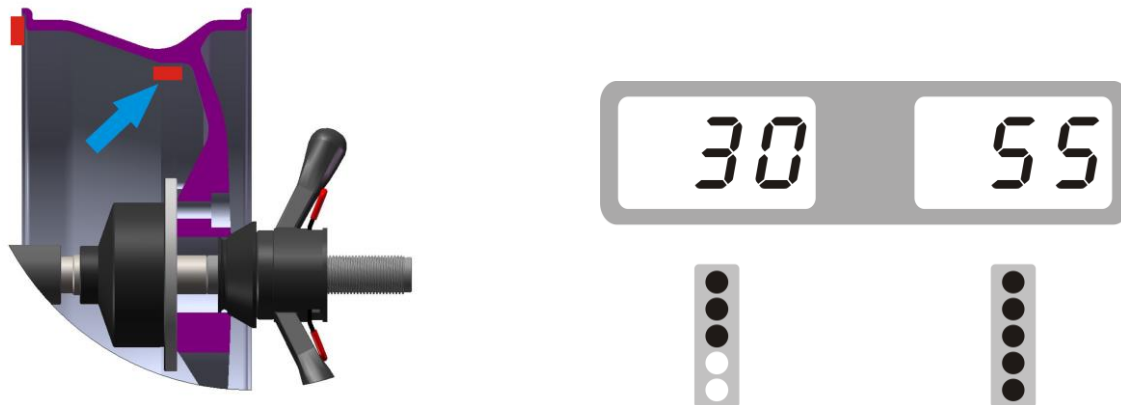

Fig. 6
4.2.5. Anticlockwise moving wheel slowly, the displays with right LED's lit up full indicate the correct angular position where to mount the counterweights, 12 o'clock position (9H=Off) or 9 o'clock (9H=On) position outside, as Fig.6, add the counterweight.